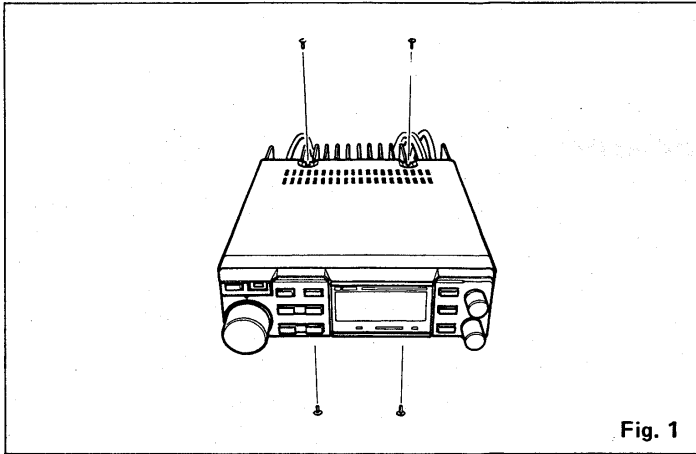

Fig. 1
1) Unscrew the four cover screws on the top and bottom covers and remove the top and bottom covers. See Fig. 1.